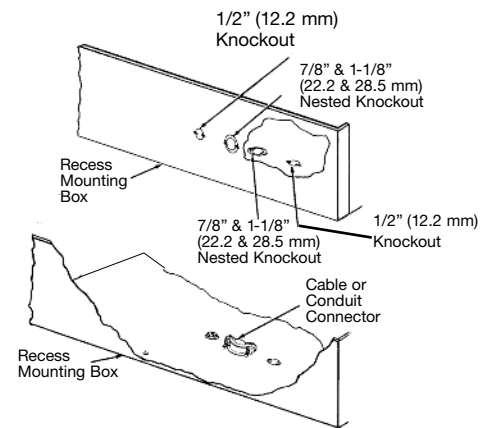

Figure 6
- Remove the Recess Mounting Box (Figure 6) from the carton containing the Recess Mounting Enclosure, Type FIE-REB-N or FIE-REBNW-W.
- Remove one of the knockouts close to the ground screw and install a cable or conduit connector (Figure 6).